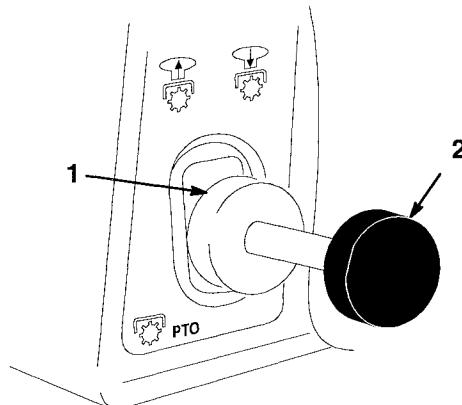

Figure 14
- Pull the power take off (PTO) to "ON" (Fig. 14).
- Push the power take off (PTO) to "OFF" (Fig.14).